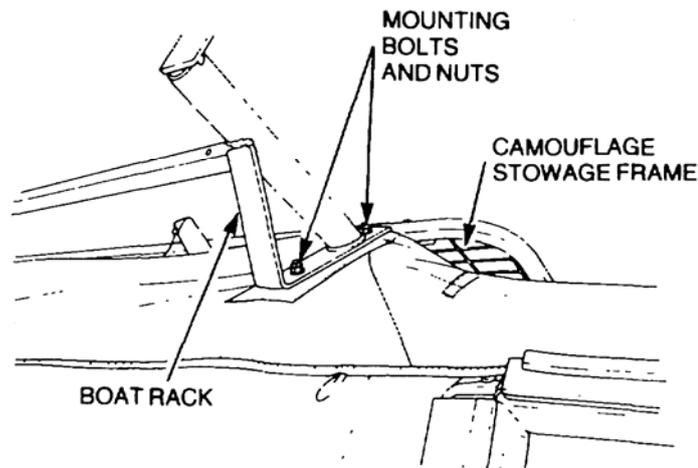

Figure 10 Right Hand Front View of Boat Rack and Camouflage Stowage Frame
- Remove the four bolts, lock nuts, washers and gaskets securing each section of the rack to the front and rear roll bars (refer Figure 10).